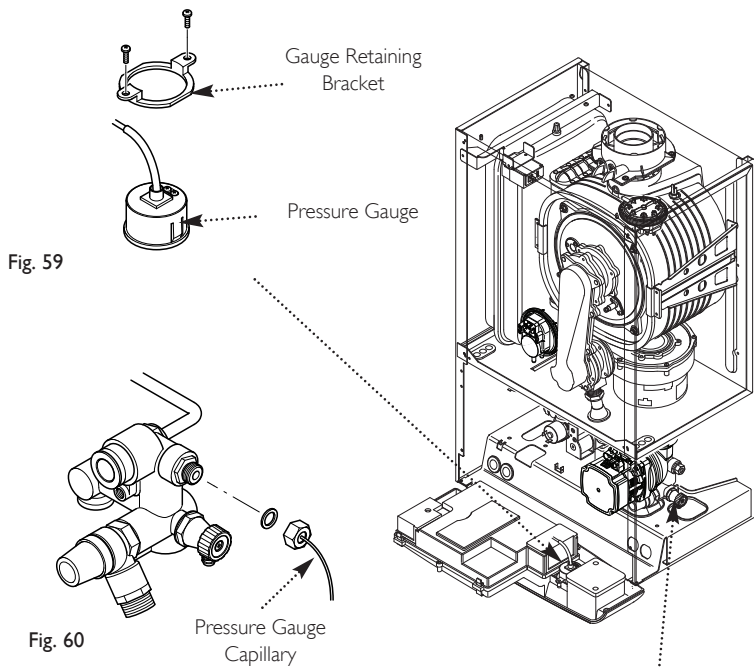

Fig. 59
13.17 Pressure Gauge (Figs. 59 & 60)